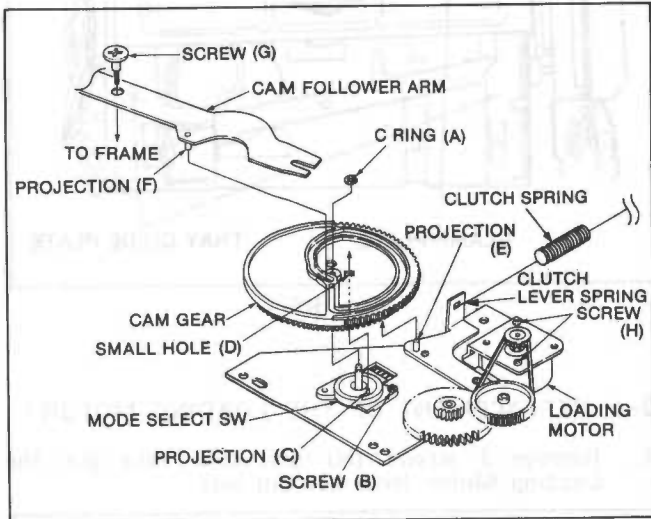

Fig. R7
2. Install the Cam Gear with the half slot side showing so that Small Hole (D) on the Cam Gear meets Projection (C) on the Mode Select SW as shown in Fig. R7. Then install the C-Ring (A) to mount Cam Gear.
3. Turn the Cam Gear fully to clockwise. Then, install the Cam Follower Arm so that the projection (F) meets the inner slot of Cam Gear. Also install Screw (G) so as to mount the Frame.